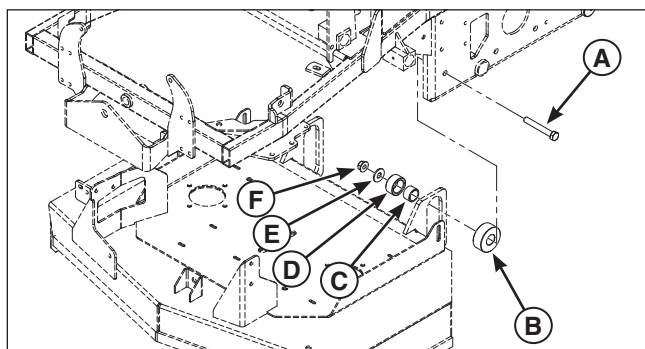

Figure 56. Pusher Rollers
4. Install the rear of the mower deck to the unit using the pusher rollers and secure as shown in figure 56 using the 1/2" hardware. The 1/2"-13 X 3" bolt (**A**, **Figure 56**) is routed through the frame of the unit, the deck guide (**B**), the mower deck roller post, the sleeve bushing (**C**), the roller (**D**), the 1/2 USS washer (**E**) and secured using the 1/2-13 hex nylock flange nut (**F**).